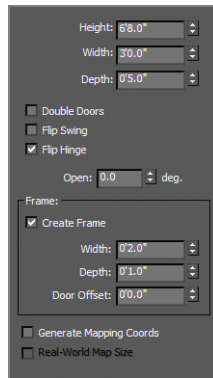

FIGURE 3.10
8. Go to the Modify panel and enter the correct height parameter for the door: 6'8.0". Check Flip Hinge, as shown in Figure 3.10. Flip Hinge sets on which edge the door swings.